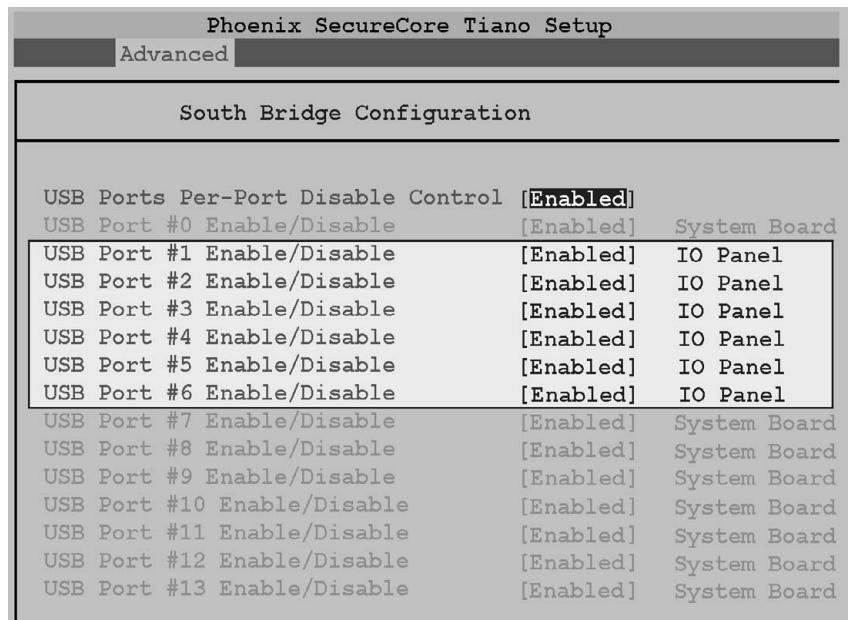

Figure 4-8: USB Per Port Enable/Disable (BIOS)
- The top of Figure 4-8 displays this screen with USB1 through USB6 highlighted to avoid the System Board USB ports. The lower half of the illustration points out the location of IO Panel USB port.